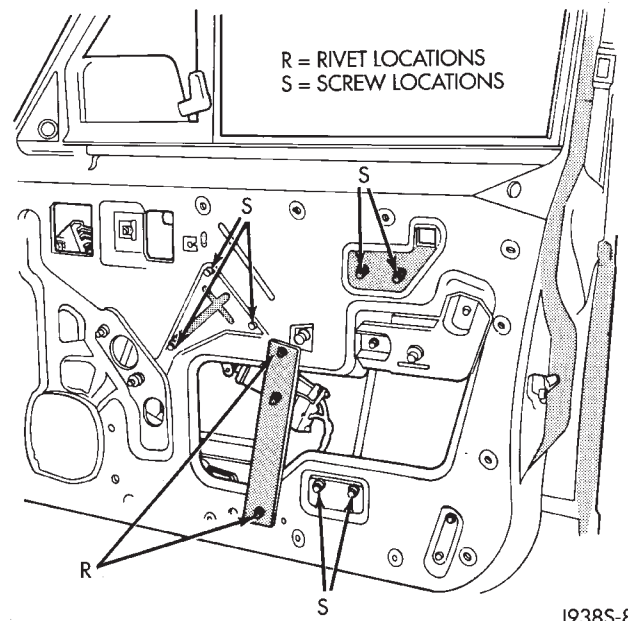

Fig. 8 Window Regulator Removal
(8) Remove the plastic water dam sheet.
(9) Grind the heads off 2 rivets holding reinforcement to door (Fig. 8). Knock rivets out with a hammer and punch.
(13) Pull glass to the full up position and tape glass to door.
(14) Disconnect wire harness connector from the window regulator.
(15) Remove remaining window regulator attaching screws (Fig. 8).
(16) Remove window regulator.